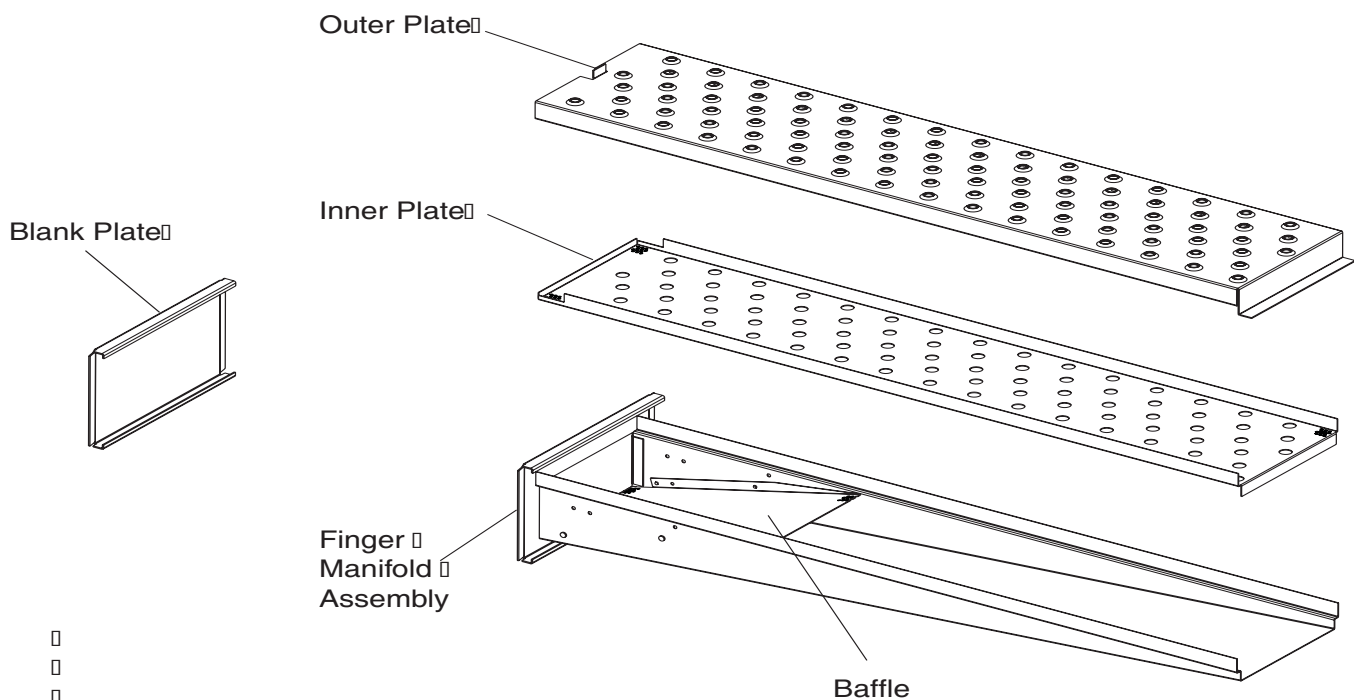

Figure 1-7. Blank Plates (two sizes) and an Air Finger.
E. Air Fingers and Blank Plates - See Figure 1-7